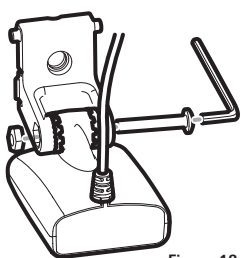

Figure 12
3. Put the pivot bolt through the assembly to hold it in position and loosely install the nut, but do NOT tighten the nut at this time (Figure 12).